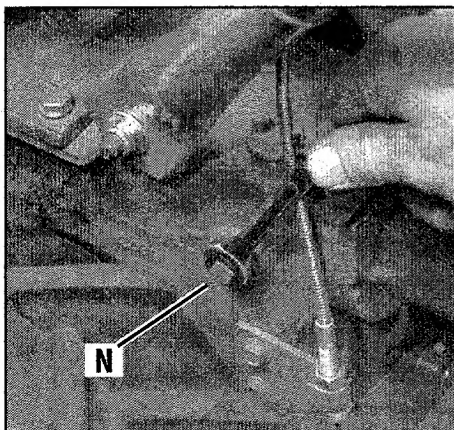

Figure 2-11: Gear oil level check plug.
3. Remove the oil level check plug (N, Figure 2-11) on the left-side of the transmission. (Due to dried paint on the plug threads, it may require some force to remove the plug the first time.) The gear oil level is correct if oil starts to flow out of the hole as the plug is removed. If so, securely reinstall the plug.
- Using a clean funnel, slowly add gear oil until it flows from the oil level check hole (N, Figure 2-11). Securely reinstall the oil level check plug (N).